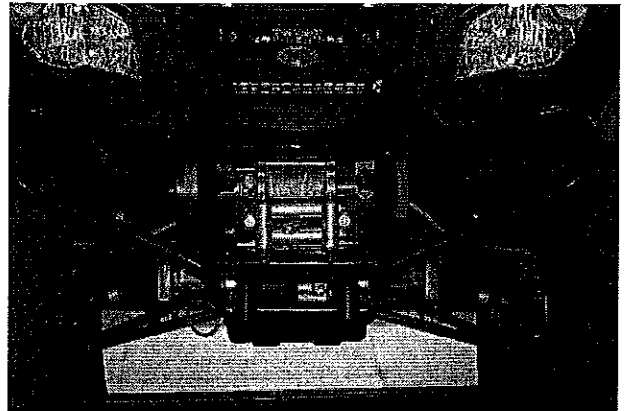

Figure 5
7. Place bumper on vehicle. See figure 5.